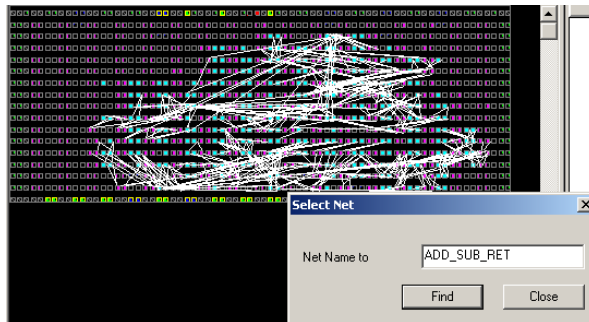

Figure 2-8. Selected Net Highlight in the ChipView window
2. **Enter Net name and click *Find*.** The net is highlighted in the ChipView window, as shown in Figure 2-8.